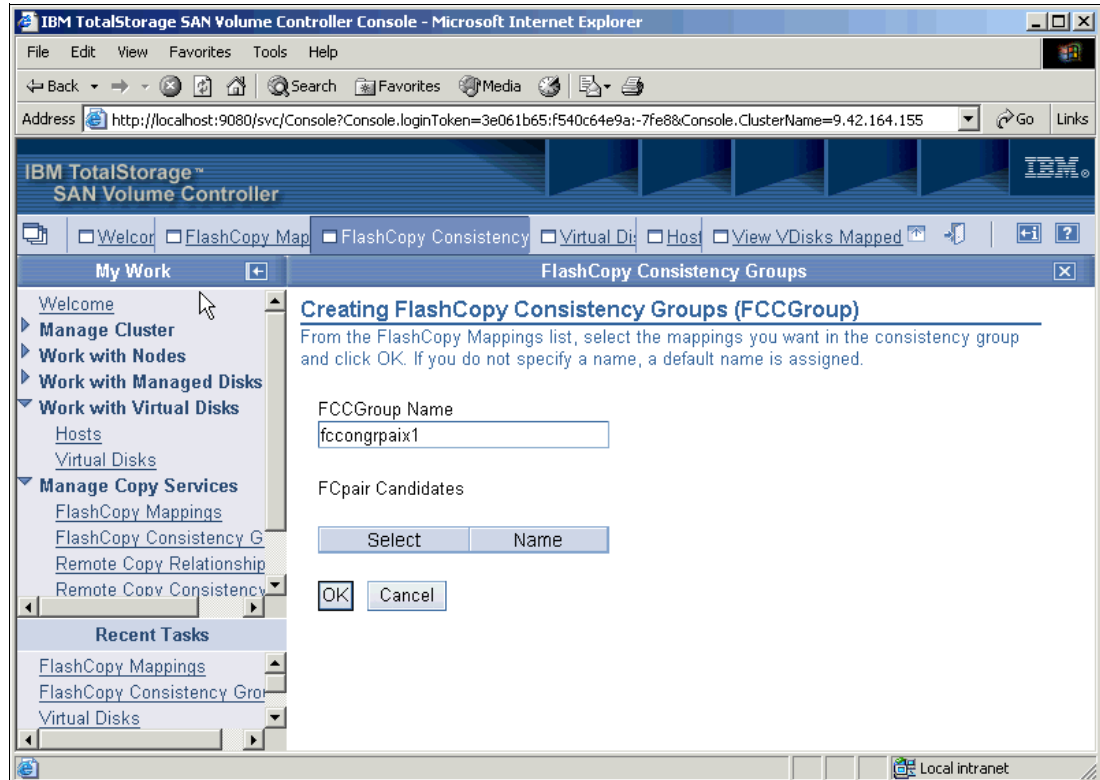

Figure 10-12 Creating FlashCopy consistency group fcongrpaix1
3. On the Creating FlashCopy Consistency Groups panel (Figure 10-12), enter the name for your FlashCopy consistency group and click **OK** to complete.